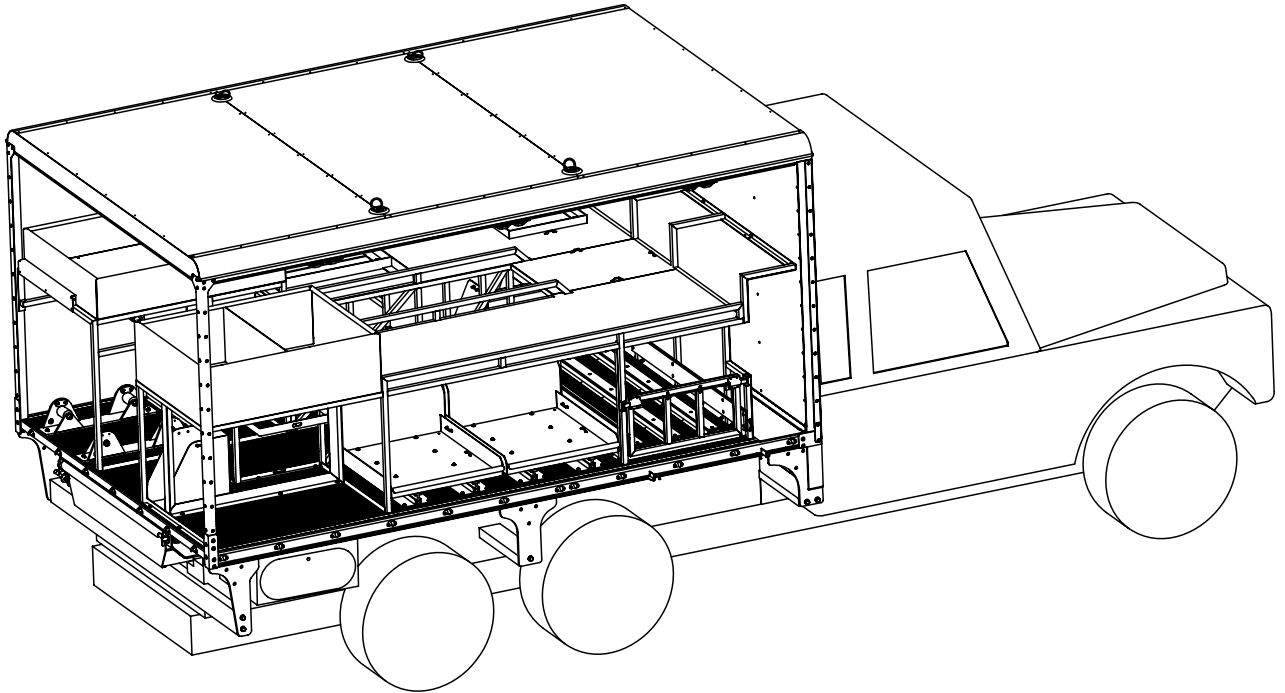

Figure 3 Cargo Tray Assembly
3. The vehicle's rear body utilizes a modified cargo tray (Figure 3) with stowage provided for all equipment required to operate as a Target Sensor Vehicle. A solid roof covers the complete cargo area and is fitted with soft sides.